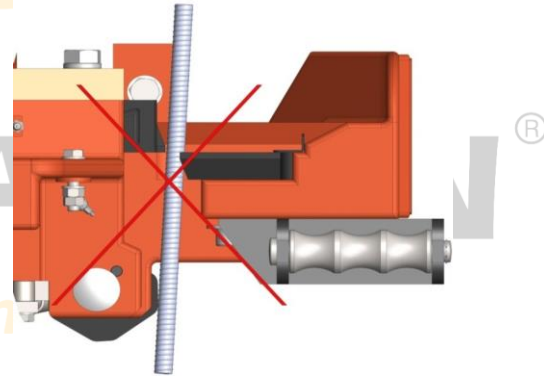

Figure 3: Incorrect placement of the rebar
- Machine should be run by pressing on the start button. (Figure 3)
- Machine is stopped by pressing on the stop button after the completion of works. (Figure 3)